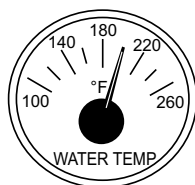

Figure 44. Coolant Temperature Gauge
8. The **coolant temperature gauge** (Figure 44) will indicate the coolant temperature. Under normal operating conditions the coolant temperature should be between 167°~194°F (75°~90°C).